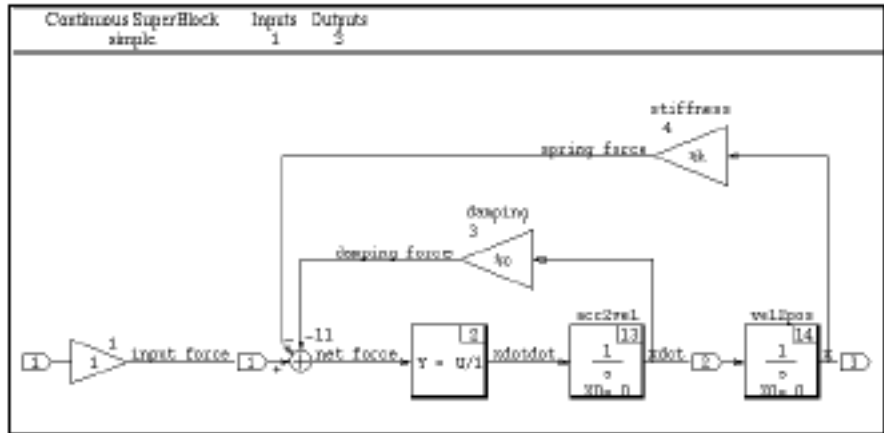
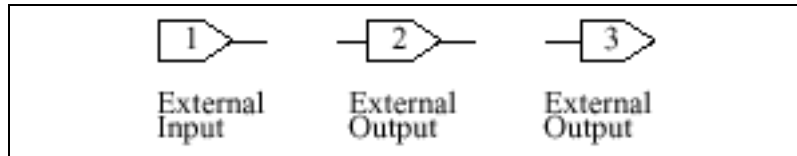

Figure 4-15. Spring-Mass Damper Block Diagram
Figure 4-22. External I/O Flags from Spring-Mass Damper Model
The block diagram for this model appears in Figure 4-15.
4. Continue to connect the blocks as shown in Figure 4-15.
The spring-mass damper model (see Figure 4-15) has one external input and three external outputs in the tutorial. Figure 4-22 shows some of the external I/O flags from this model. Notice that there is only one way to represent an external input connection, while there are two possible ways